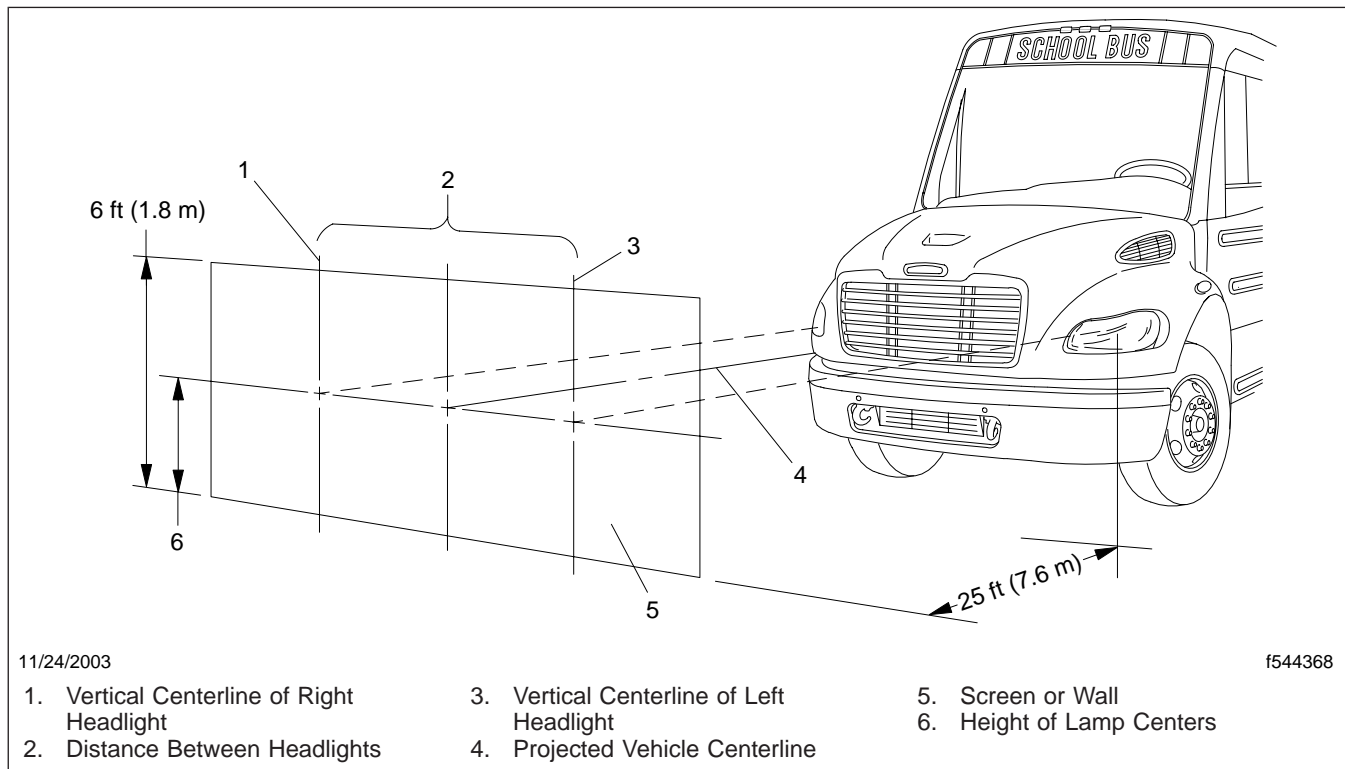

Fig. 15.1, Headlight Aiming Screen or Wall
1. Park the vehicle on a level surface 25 ft (7.6 m) from a screen or wall that can be used for aiming the headlights. Shut down the engine, apply the parking brake, and chock the front tires. See Fig. 15.1.